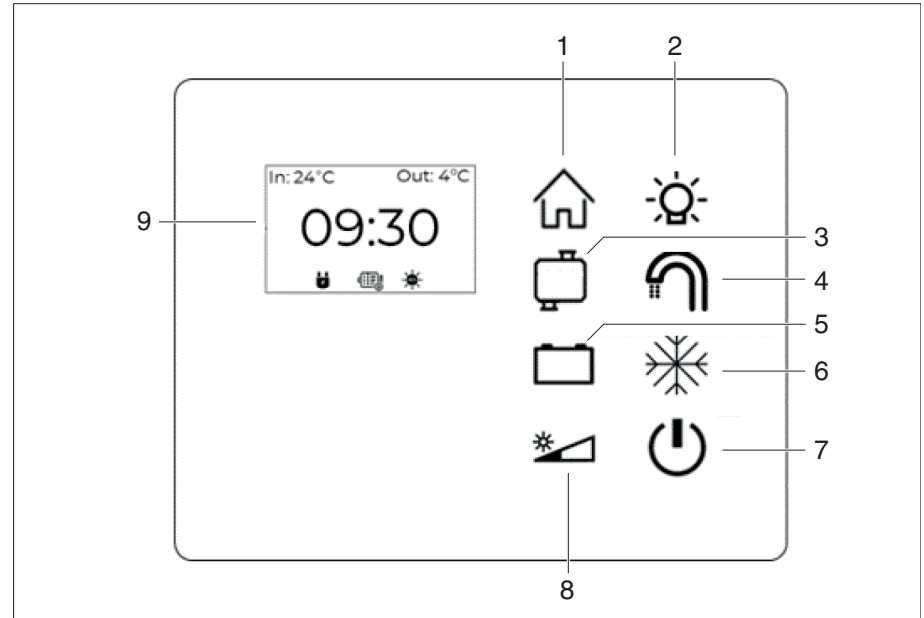

Fig. 59 Control panel D200
Control display status views The control display view switches to the corresponding display mode by pressing the buttons (Fig. 59,1, 3 and 5).
Time setting mode is activated by pressing and holding down on the home button (Fig. 59,1). Afterwards, only the time will be shown in the control display. A cursor will flash below the hour display (HH:MM).
When the home button (Fig. 59,1) is pressed, the control panel indicates which power source is being used to charge the living area battery in the control display.
The power button (Fig. 59,7) is used to switch the control panel on and off. The lighting is set to medium brightness as standard and can be manually adjusted by pressing the dimming button (Fig. 59,8). Regardless of the configured brightness level, the lighting is dimmed when inactive and reactivated by pressing any button. The most recently set brightness level will be maintained. The dimming button (Fig. 59,8) is always yellow, except in night mode.
The control panel switches to night mode when the dimming button is pressed and held down (Fig. 59,8). Only the dimmer button is illuminated dimly in red to avoid confusion with a switched-off control panel.
If the fresh water fill level is very low or the waste water tank is almost full, the control button (Fig. 59,3) on the control panel flashes red. Press the control button to display the fill level status.
- Press the control button (Fig. 59,3).
- Press the control button (Fig. 59,3) again.
The control panel provides acoustic feedback for the fill level when the fresh water tank is being refilled. This can be activated by pressing and holding the control button (Fig. 59,3) for the fresh water fill level.
The button flashes once successfully activated. Fill level management varies depending on the type of tank installed. Once the fill level reaches approx. 80% of the actual tank volume, an acoustic tone sounds. As the level of liquid rises, the sound intervals become shorter to prevent overflowing. The sounds stop once refill mode is deactivated. To deactivate refill mode, press the control button (Fig. 59,3) again.
If the battery voltage is very low, the control button (Fig. 59,5) will flash red or white on the control panel.
- Press the control button (Fig. 59,5).
- Press the control button (Fig. 59,5) again.
If the living area battery voltage is very low, the control button (Fig. 59,5) on the control panel flashes red. The status bar for the living area battery will also flash in the control display. If the living area battery is not charged, the battery voltage will sink again. Battery protection engages once the battery reaches a critical value.